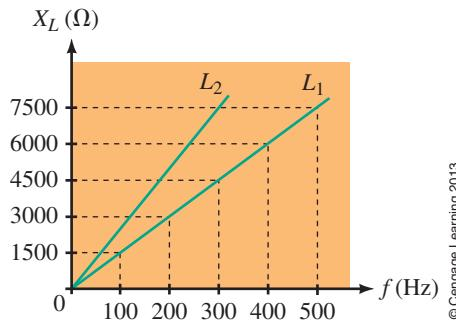

FIGURE 16–29 Variation of X_L with frequency. Note that $L_2 > L_1$.
- $i_L = 1.99 \sin(\omega t - 90^\circ)$ mA. Waveforms same as Figure 16–25.
Since $X_L = \omega L = 2\pi f L$, inductive reactance is directly proportional to frequency (Figure 16–29). Thus, if frequency is doubled, reactance doubles, while